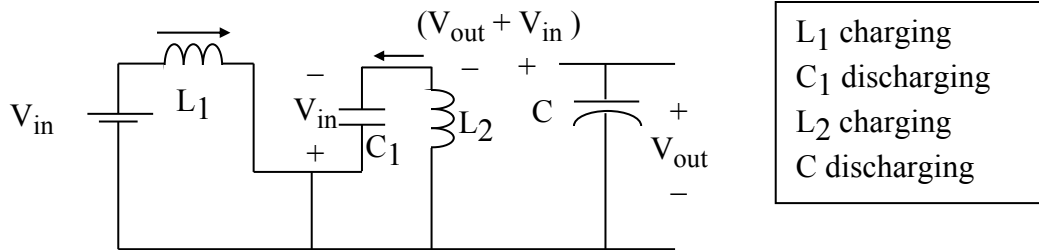

Figure 2a. Switch Closed for  $DT$  Seconds
Assuming continuous conduction, the circuit has two topologies: switch closed and switch open as shown in Figures 2a and 2b respectively.
When the switch is closed (Figure 2a),  $C_1$  is in parallel with  $L_2$  and thus begins to charge  $L_2$  as  $C_1$  discharges. The diode can be seen to be reversed biased by a simple KVL check around the loop including  $C$ , the diode, and  $C_1$ . During this time,  $L_1$  is in parallel with  $V_{in}$  and therefore charges. The current  $i_{L1}$  increases at the rate of
$$\frac{di_{L1}}{dt} = \frac{V_{in}}{L_1}, \quad 0 \leq t \leq DT, \quad [\text{KVL, from left-most loop, Figure 2a.}] \quad (3)$$
Referring to Figure 2a, when the MOSFET is closed, the diode is subjected to  $(V_{in} + V_{out})$ . The diode should be rated at  $2(V_{in} + V_{out})$ .